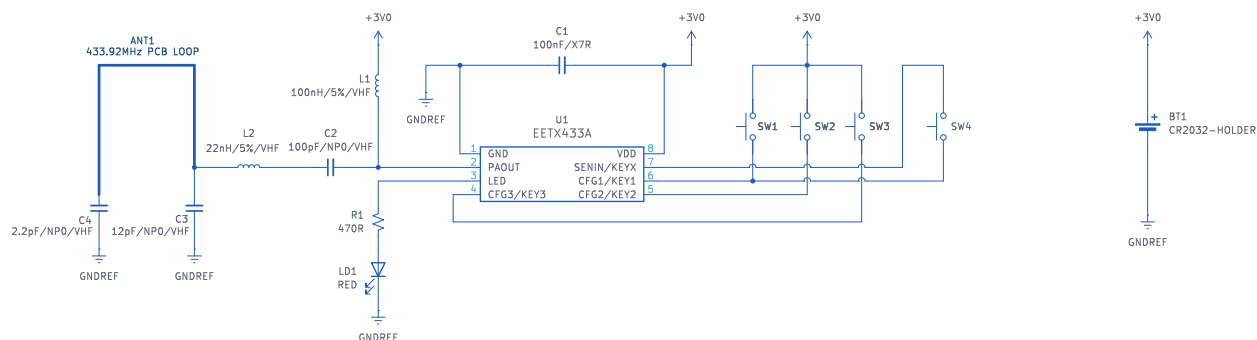

Figure 4: 433.92 MHz typical application — 4 buttons
- **Transmitter Mode (Mode 0)** — All three CFG pins are left open during power-up (no connection to VDD/GND) — this selects Mode 0. The IC works as a keypad of up to 6 keys: up to 3 keys wired directly (one per CFG pin) and keys 4, 5 and 6 through control of the KEYx pin (see "Key Mapping" and the 4- and 6-key schematics, Figures 4 and 5). Each key transmits a unique 4-bit value.
Mode 0 (Transmitter): transmission triggers on a key press. Up to 3 keys connect a CFG pin (CFG1, CFG2 or CFG3) directly to VDD (logic 1); keys 4, 5 and 6 use control of the KEYx pin (SENIN/KEYx) — see "Key Mapping" and Figures 4 and 5. Transmission continues while the key is held, with a minimum duration of 864 ms (16 packets) and a maximum of 5400 ms (100 packets). If the user releases the key before 864 ms, the IC still completes the minimum duration.
In Mode 0 (Transmitter), CFG1, CFG2 and CFG3 must be left floating (no connection to VDD or GND) at power-up — this is what selects Mode 0. Only 3 keys can be wired directly, one per CFG pin, tying the pin to VDD when pressed: KEY1 → CFG1/KEY1 (pin 6), KEY2 → CFG2/KEY2 (pin 5) and KEY3 → CFG3/KEY3 (pin 4). Keys 4, 5 and 6 are not direct: they rely on control of the KEYx pin (SENIN/KEYx), per the 4- and 6-key application schematics (see Figures 4 and 5). Each key transmits a fixed 4-bit value per the table below: